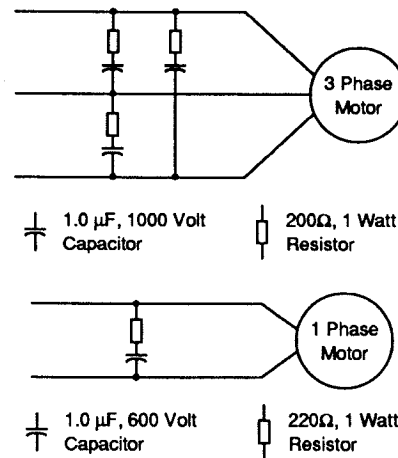

Figure 2-15 AC Motor Arc Suppression
1. All motors should be arc suppressed at the motor starters as shown in Figure 2-15.